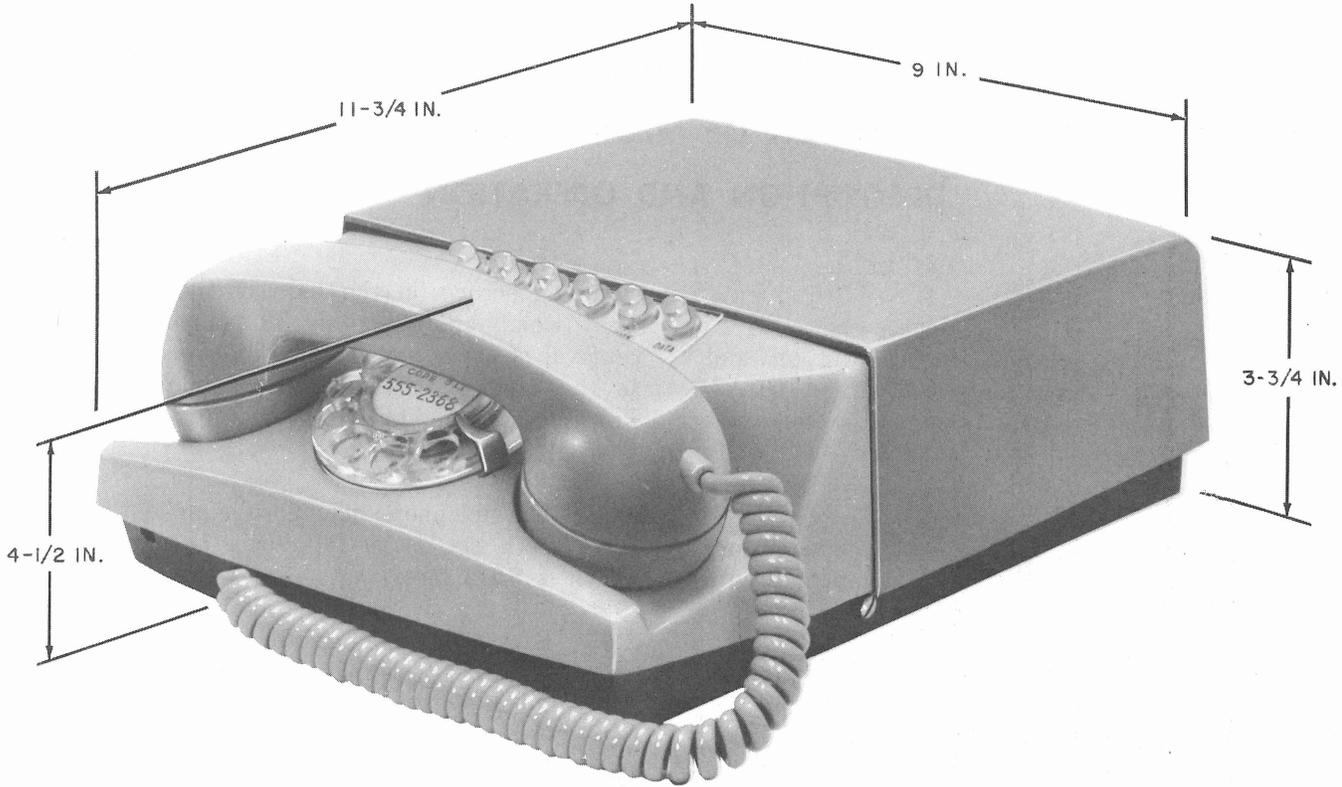

Fig. 1—Data Set 603A1—Front View
2.01 Data Sets 603A1 and 603A2 are both integrated units which combine a data transmitter, a reverse-channel receiver, a line control circuit, a telephone handset, and six pushbuttons for function control. The 603A1 and 603A are shown in Fig. 1 and 2, respectively.